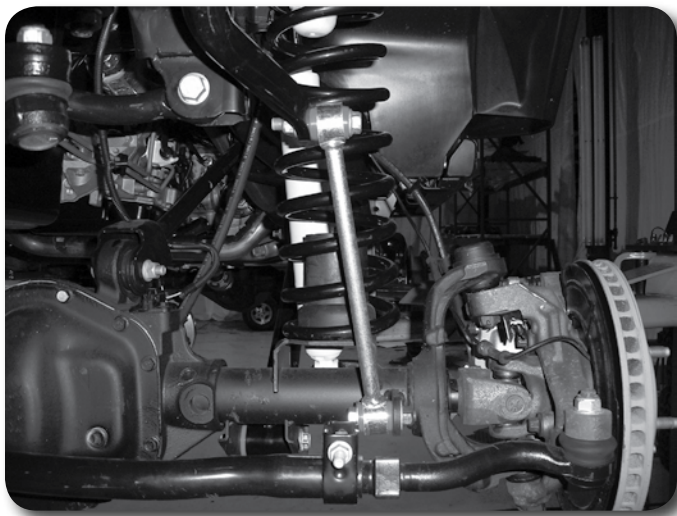

Figure 13
34. Attach the new front sway bar links to the inside face of the factory mounting tabs with the provided 12mm x 60mm bolts, nuts and washers. Position the links so they go toward the inside of the vehicle as they go up toward the sway bar. Leave hardware loose. **Figure 13**